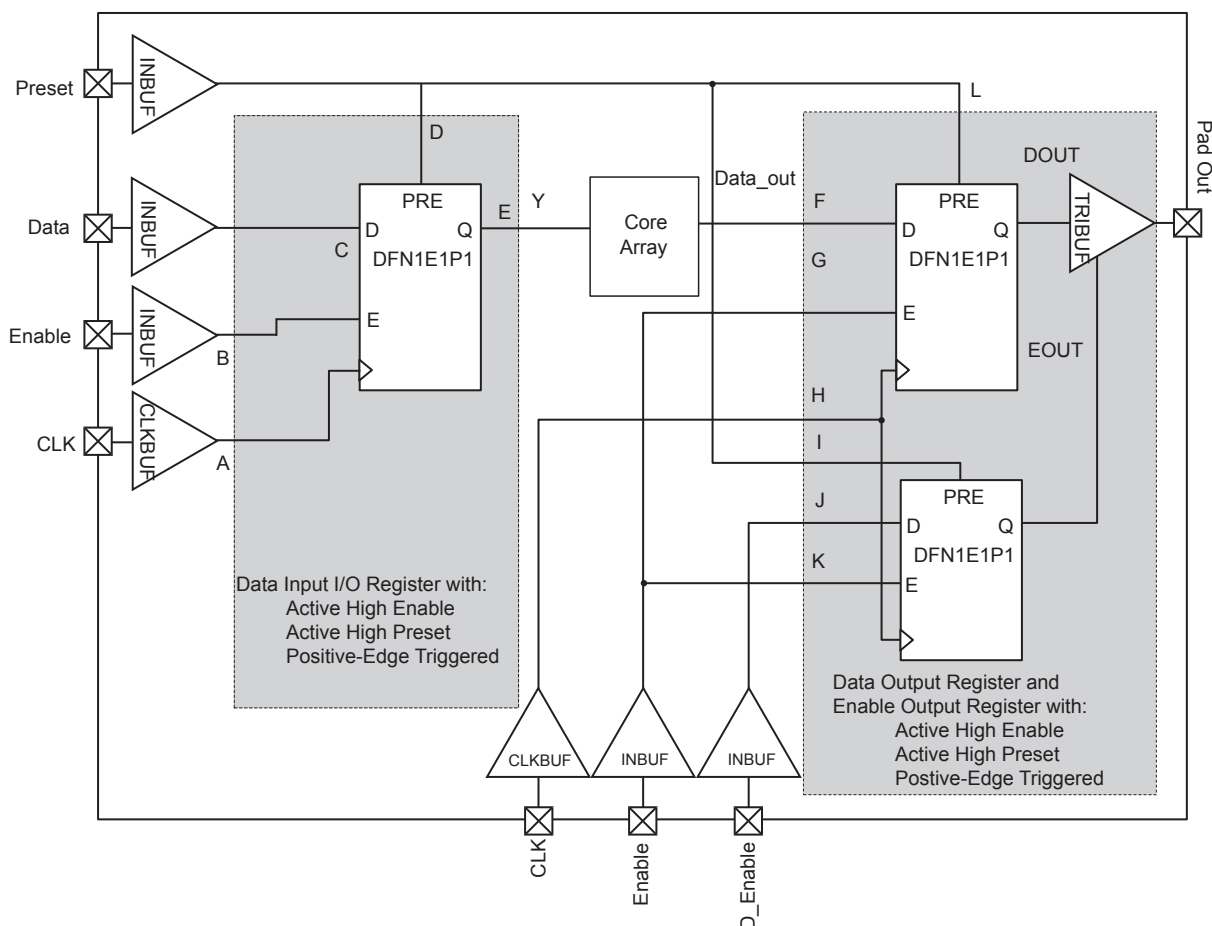

Figure 2-16 • Timing Model of Registered I/O Buffers with Synchronous Enable and Asynchronous Preset
*Note:* \*See Figure 2-16 on page 2-83 for more information.